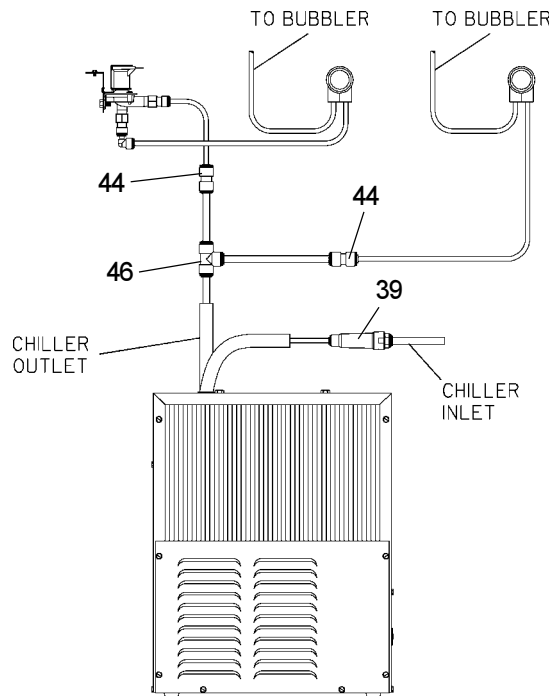

FIG. 6
OVLSER-EE: (Ref. Fig. 6) Make connection between remote chiller and building supply line. Remove the 3/8" x 1/4" union (item 44) from the chiller inlet tube and install it on the water inlet line of the upper fountain. Install the strainer (item 39) on the chiller inlet tube. Install a 3/8" O.D unplated copper water line between the valve and the cooler. Remove all burrs from the outside of the water line. Insert the 3/8" water line into the inlet side of the strainer by pushing it in until it reaches a positive stop, approximately 3/4" (19mm). See Figures 1 and 2. **DO NOT SOLDER TUBES INSERTED INTO THE STRAINER AS DAMAGE TO THE O-RINGS MAY RESULT.**